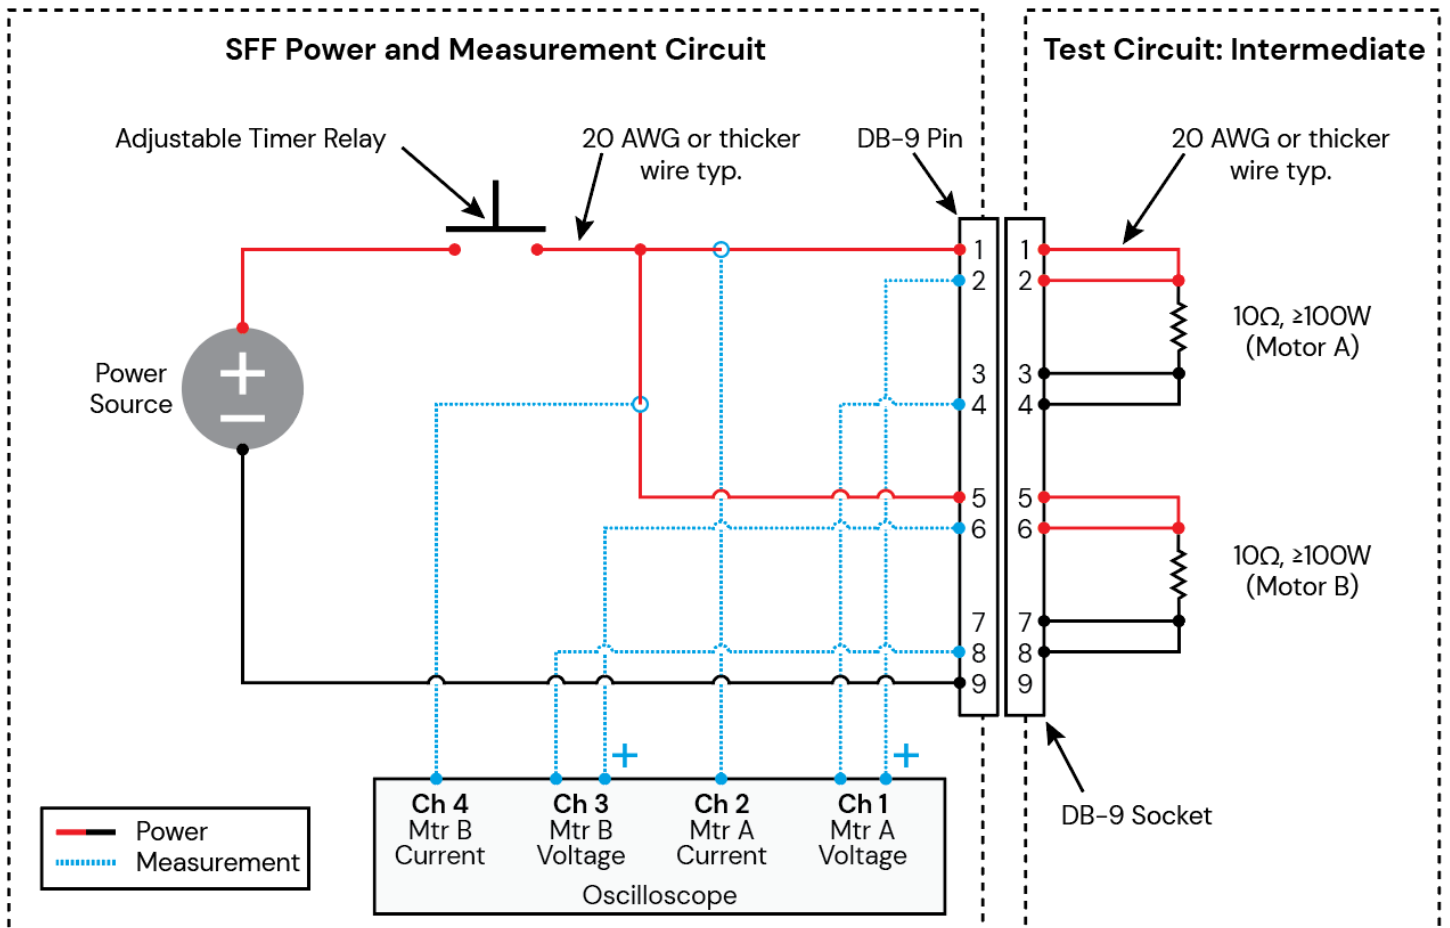

Figure 10-2: SFF test circuit #2
10.2.1	Set up the Test Circuit: Intermediate per Figure 10-2.